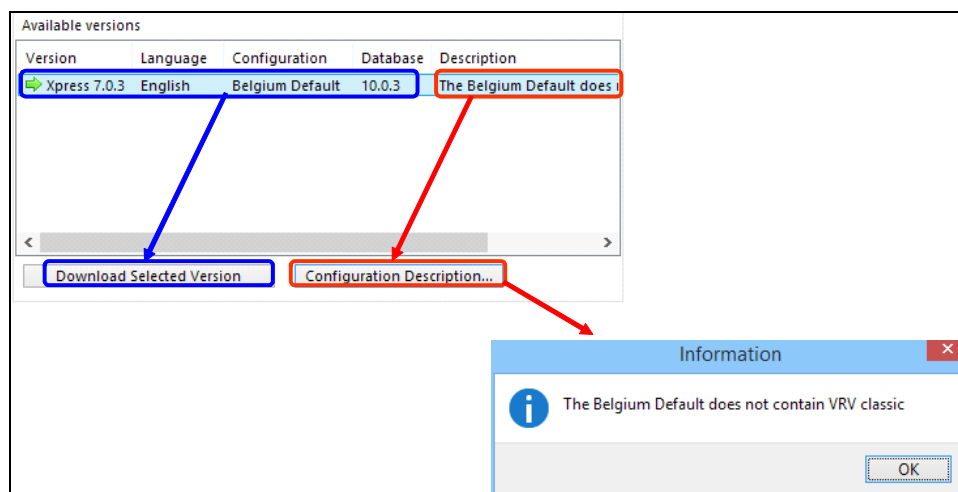

Figure 12: Getting information about a specific configuration
- The bottom part shows the list of available versions: the list here contains only one version, which is the default version for Belgium. It contains a configuration name and description, which may consist of several lines of text. Click on the "**Configuration Description**" command button to display this text in a window, as shown in Figure 12: